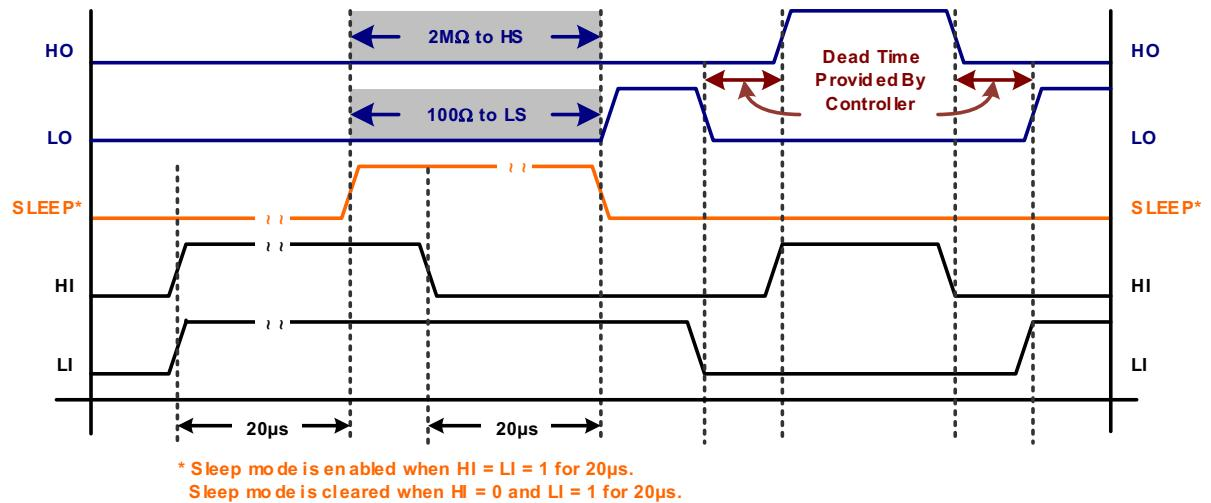

Figure 7. Sleep Mode Enabled or Cleared by HI and LI Inputs
14. When HI and LI are on simultaneously, HO and LO are never on simultaneously. This feature is intended to initiate sleep. This feature cannot be used to prevent shoot-through for normal alternating switching between LI and HI. Dead time must be provided when $HI = 0 \rightarrow LI = 1$, or $LI = 0 \rightarrow HI = 1$. See Timing Diagrams (Figure 7 on page 13).